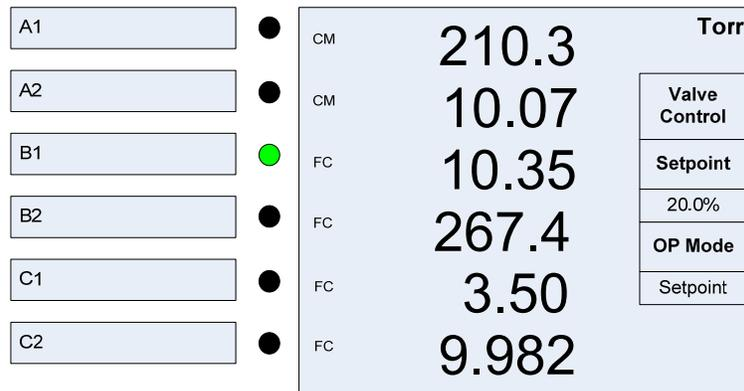

Figure 6-26 Front Display with Valve Control Dialog Box
1. Press the  button to the front panel display with valve control dialog box as shown in Figure 6-26. Please note that this screen will not show up if no pressure control is inserted in the COMM/VLV slot.
- For Set Point control the valve (set the valve opening to specific position), it is required to (1) set an appropriate value for Set Point (such as 20.0% in Figure 6-26), and (2) change the OP Mode to Set Point, or just simply press the key, and press key afterward to confirm the operation. Note that the set point value can be adjusted lively under the Set Point OP Mode without stopping the Set Point control.
- Manual operation mode enables the dynamic manual adjusting the valve position. Once the manual operation mode is selected, the dialog box as shown in Figure 6-26 will disappear, the
If you want to close the valve, press the  key until front display is as shown in Figure 6-26, move the cursor to OP Mode, and change the parameter to Close, or just simply press the  button, and press the  key afterward to confirm the operation.
If you want to open the valve, press the  key until front display is as shown in Figure 6-26, move the cursor to OP Mode, and change the parameter to Open, or just simply press the  button, and press the  key afterward to confirm the operation.
3. Set the valve to fixed position defined by the set point as shown in Figure 6-26
If you want to set the valve to fixed position, press the  key until front display is as shown in Figure 6-26, move the cursor to OP Mode, and change the parameter to Set Point, or just simply press the  button, and press the  key afterward to confirm the operation.